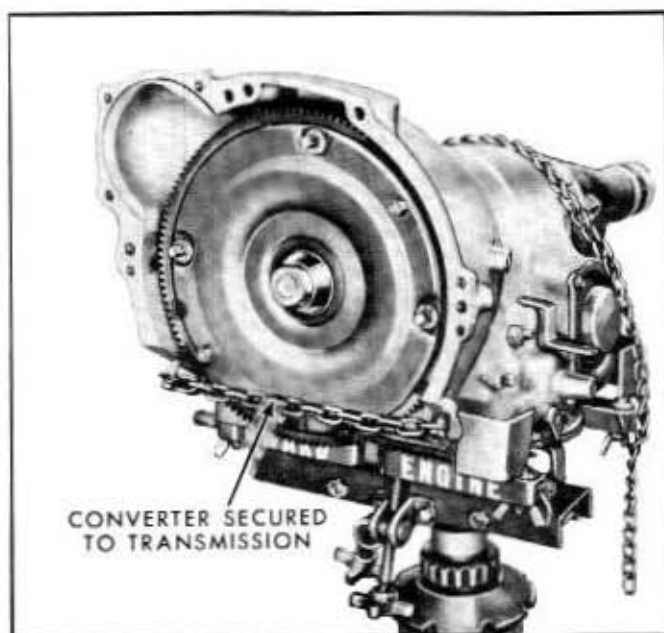

Fig. 7A-8—Transmission Mounted in Jack—(60C-4408)
2. Mount the transmission in the jack (figure 7A-8) and position it under the car.